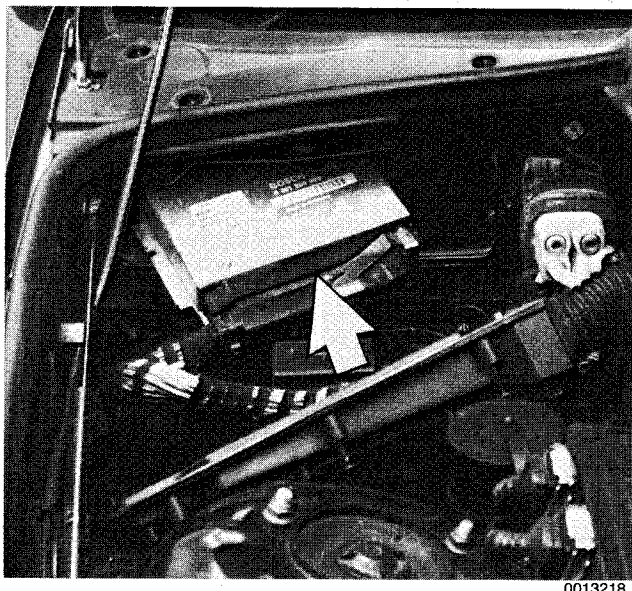

Fig. 42. Engine control module (ECM) located in compartment in right-rear of engine compartment (arrow).
2. Remove engine control module (ECM) compartment cover from right side of engine compartment rear bulkhead. Cover is retained with four captive screws. See Fig. 42.